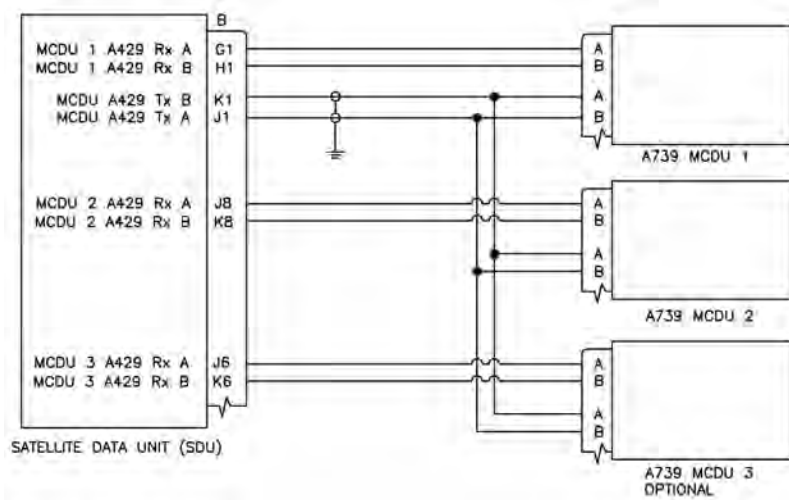

Figure 6-2 – MCDU Interface
- MCDU 2 and 3 can be connected to any ARINC 429 Rx port from 2-16 (Ports 2 and 3 are used in Figure 6-2)